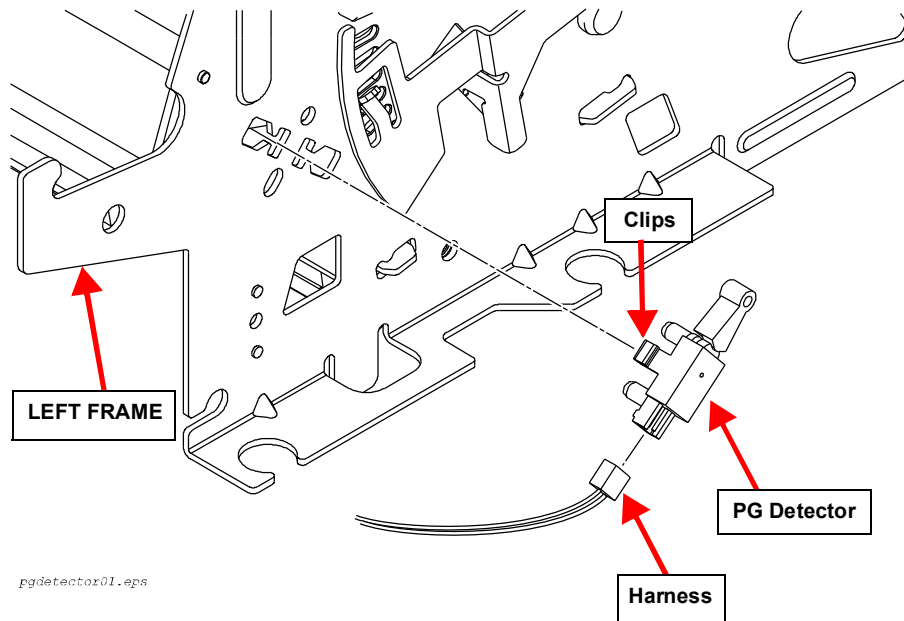

Figure 4-22. PG Detector Removal
2. Release the 2 clips attaching the PG detector to the LEFT FRAME in the Printer Mechanism, and remove the detector. (See Figure 4-22)